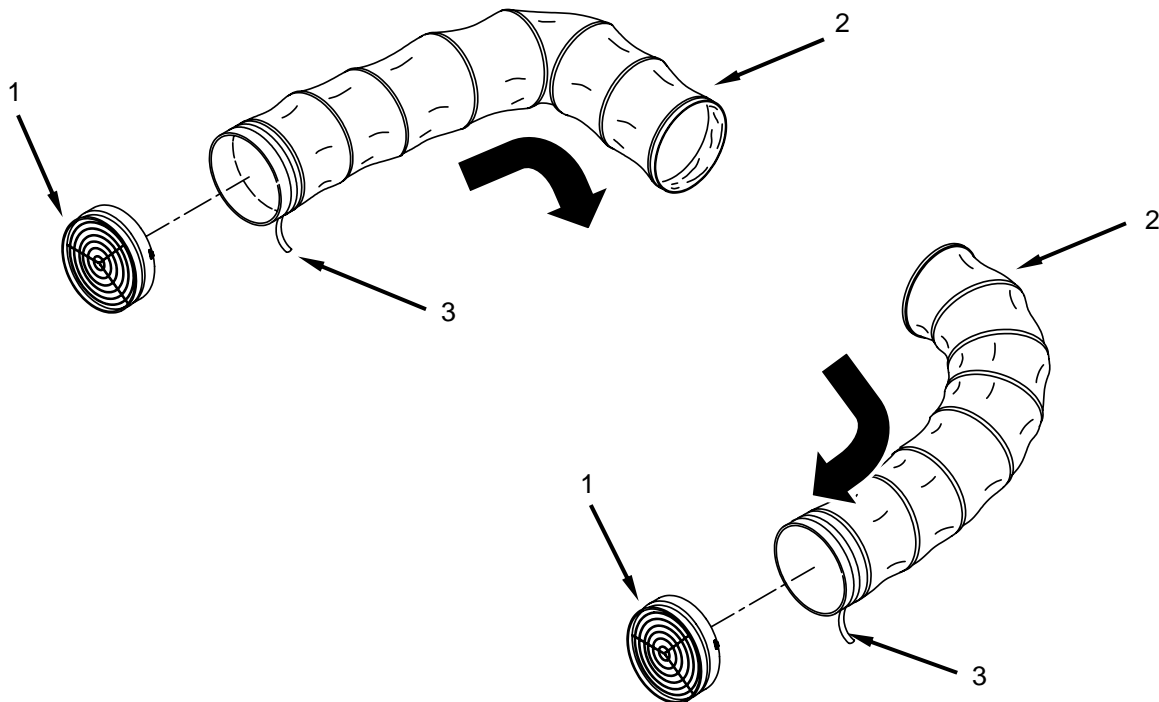

Figure 19. Installing Debris Grills in Air Supply and Return Ducts.
When the heater is shipped initially, the debris grills (**Figure 19, Item 1**) are not installed in the end of the ducts (**Figure 19, Item 2**) but must be installed before the heater can be used.
1. To install a debris grill (**Figure 19, Item 1**), insert the grill (with the grill side facing out) into the end of one of the ducts (**Figure 19, Item 2**). Secure the debris grill in the end of the duct with the strap (**Figure 19, Item 3**) at the end of the duct by installing the strap into the groove on the debris grill and tighten by pulling the strap.
5. Install debris grills (**Figure 19, Item 1**) (with the grill side facing out) into the end of one of the ducts (**Figure 20, Item 7**). Secure the debris grills in the end of the duct with the strap (**Figure 19, Item 3**) by placing the strap into the groove on the debris grill. Tighten by pulling the strap.